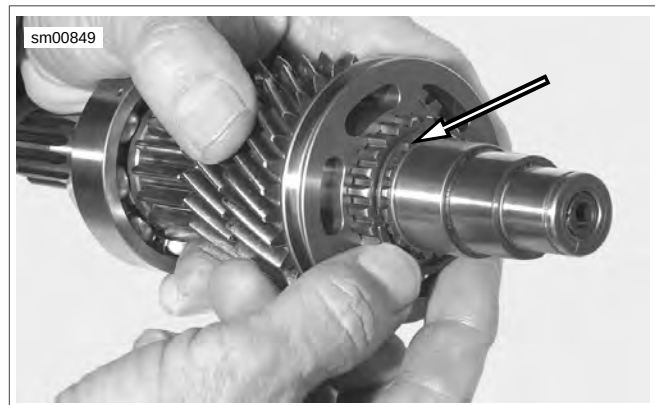

Figure 6-148. Half Moon Keepers
4. See Figure 6-148. Install half moon keepers.